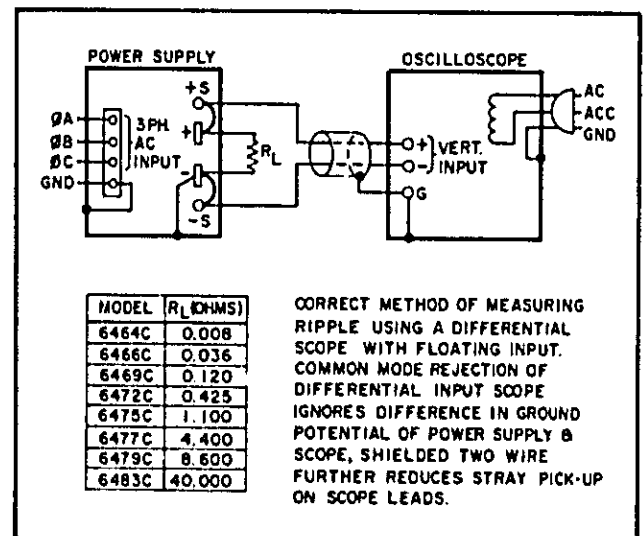
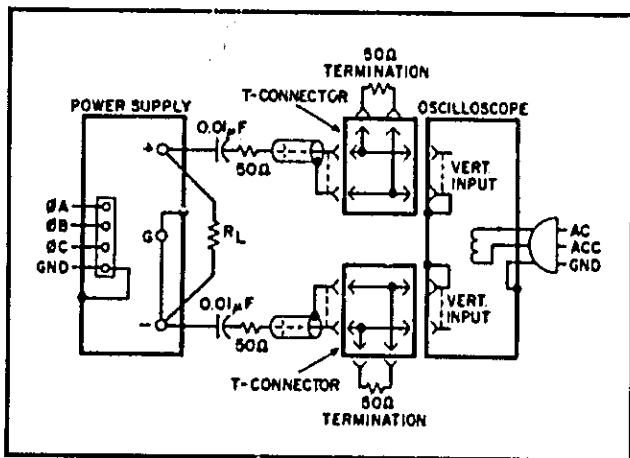

Figure 5-2. Ripple Test Setup
Figure 5-3. Noise Spike Measurement Test Setup
- Connect load resistor (R_L) indicated in Figure 5-2 across output busbars.
5-17 Figure 5-2 shows the recommended method of measuring ripple using a differential scope. If desired, two single-conductor shielded cables may be substituted in place of the shielded two-wire cable with equal success. Because of its common mode rejection, a differential oscilloscope displays only the difference in signal between its two vertical input terminals, thus ignoring the effects of any common mode signal produced by the difference in the ac potential between the power supply case and scope case. Before using a differential input scope in this manner, however, it is imperative that the common mode rejection capability of the scope be verified by shorting together its two input leads at the power supply and observing the trace on the CRT. If this trace is a straight line, then the scope is properly ignoring any common mode signal present. If this trace is not a straight line, then the scope is not rejecting the ground signal and must be realigned in accordance with the manufacturer's instructions until proper common mode rejection is attained.
- Connect oscilloscope or rms voltmeter as shown in Figure 5-2
5-21 The test setup illustrated in Figure 5-2 is generally not acceptable for measuring spikes:
- As shown in Figure 5-3, two coax cables must be substituted for the shielded two-wire cable.
5-22 The circuit of Figure 5-3 can also be used for the normal measurement of low frequency ripple; simply remove the four terminating resistors and the blocking capacitors and substitute a higher gain vertical plug-in in place of the wide-band plug-in required for spike measurements. Notice that with these changes, Figure 5-3 becomes a two-cable version of Figure 5-2.